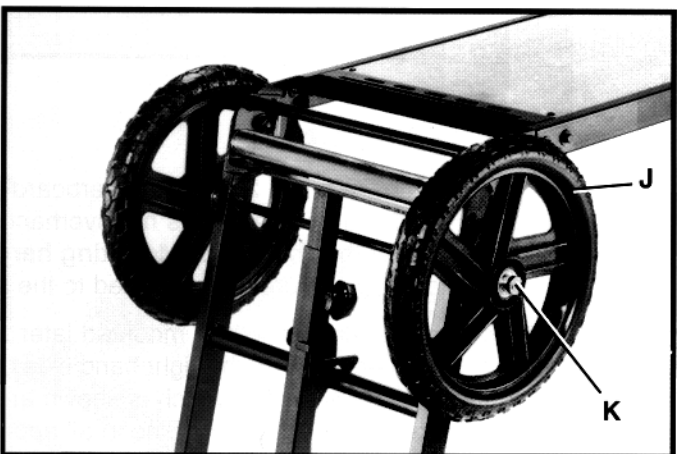

Fig. 19
4. Place remaining wheel (J) Fig. 19, on axle and carefully hammer axle cap (K) onto end of axle. **NOTE:** Opposite end of axle must be supported while axle cap (K) is assembled to end of axle.